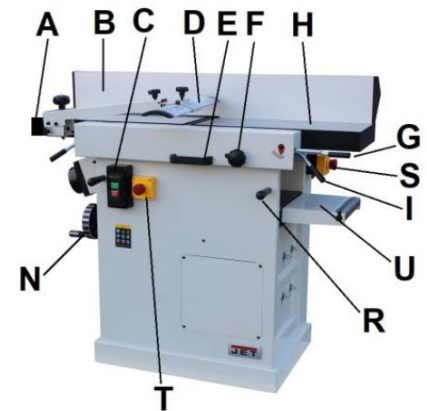

Fig 1
- N....Thickness table adjust handwheel(Fig.1)
- S....E-Stop Switch (Fig.1)
The planer tables are precisely aligned ex. works. They may only be loaded when they are closed and the table-cabinet locks (I, Fig. 1) are engaged, otherwise they may be damaged.